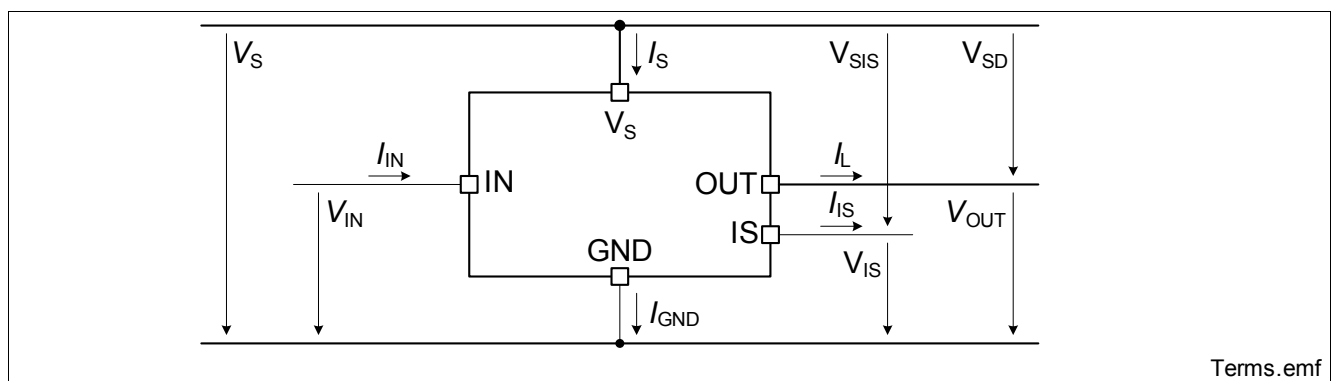

Figure 3 Definition of currents and voltages
**Figure 3** shows all terms used for currents and voltages in this data sheet, with associated convention for positive values.